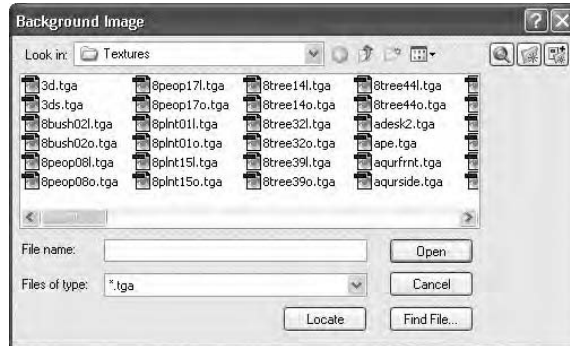

FIGURE A.37: The Background Image dialog box
2. The four radio buttons across the top determine the kind of background. Click the Image radio button; then in the Image area, click the Find File button to open the Background Image dialog box (see Figure A.37). It's a Select File type of dialog box.